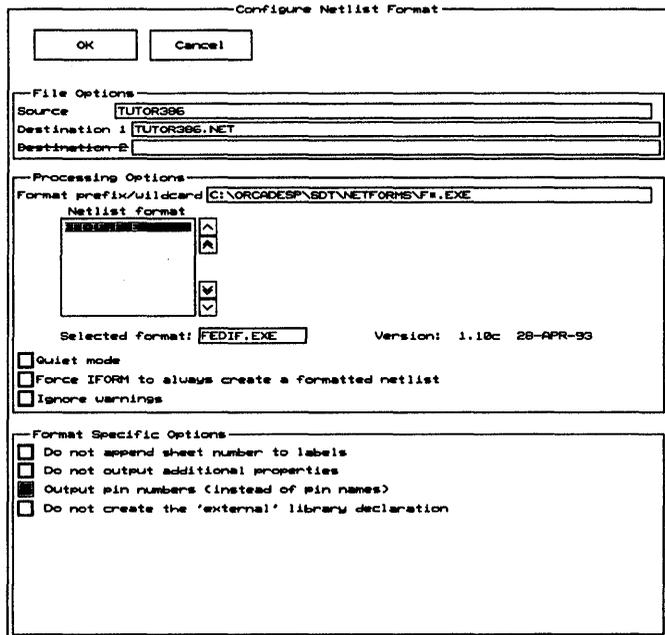

Figure 3-17. The Configure Netlist Format screen.
2. Select Configure IFORM. The Configure Netlist Format screen displays (figure 3-17).